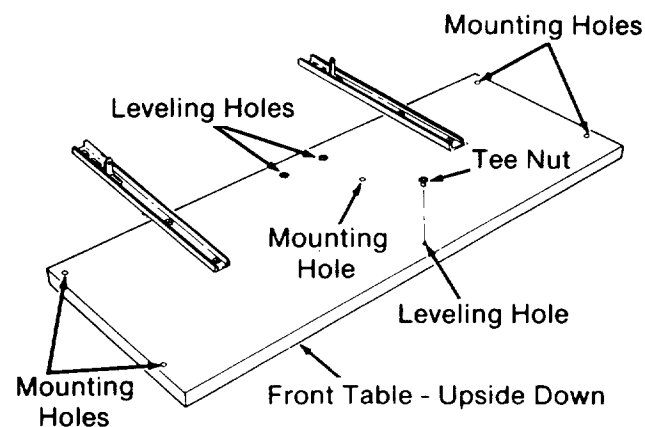

Fig. 56 - Leveling and Mounting Holes
1. Place a *tee nut* over each of the leveling holes and hammer them into place. (Figure 56)